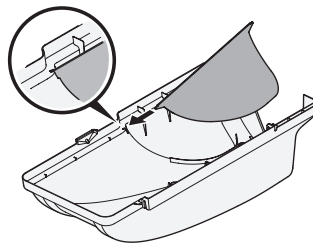

Figure 8
3. If not previously installed by the factory, install the screen (731-06504) into the bagger cover (631-04298) by first inserting the end closest to the center into the cutout mounting hole, as in Figure 8.